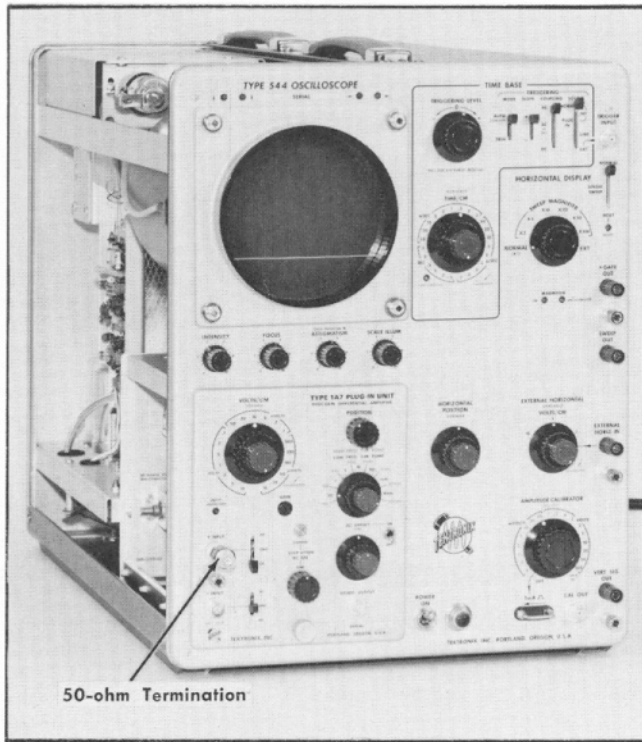

Fig. 6-12. Setup at completion of step 6a.
6. Adjust +GRID CURRENT (R115) ①
a. Connect a 50-ohm termination to the +INPUT connector. See Fig. 6-12 for setup.
7. Adjust -GRID CURRENT (R215) ①
a. Remove the 50-ohm termination from the +INPUT connector and connect it to the -INPUT connector. (This setup is similar to Fig. 6-12 except the termination is now connected to the -INPUT connector.)